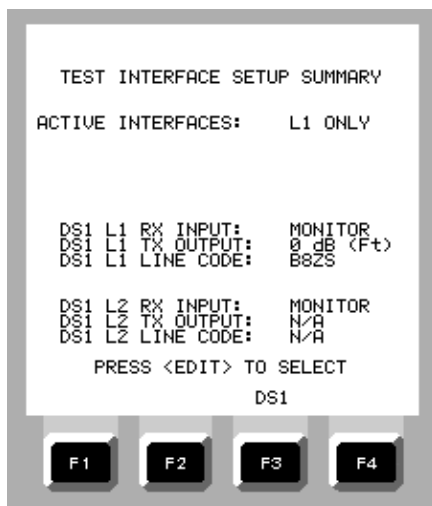
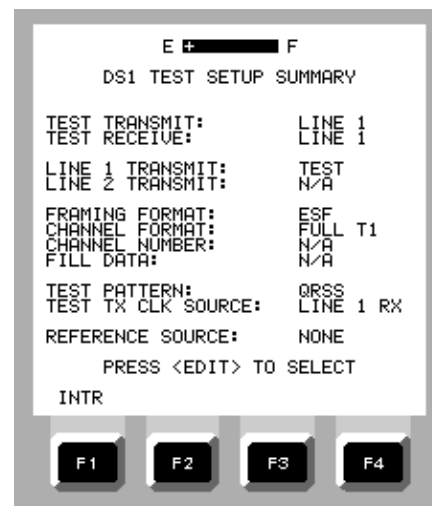

Figure 2-51. TEST INTERFACE SETUP SUMMARY Screen
Figure 2-52. DS1 TEST SETUP SUMMARY Screen
4. On the MAIN MENU, press F3 (SUMMARY) to view the TEST INTERFACE SETUP SUMMARY screen (Figure 2-51), and then F3 (DS1) to view the DS1 TEST SETUP SUMMARY screen (Figure 2-52).